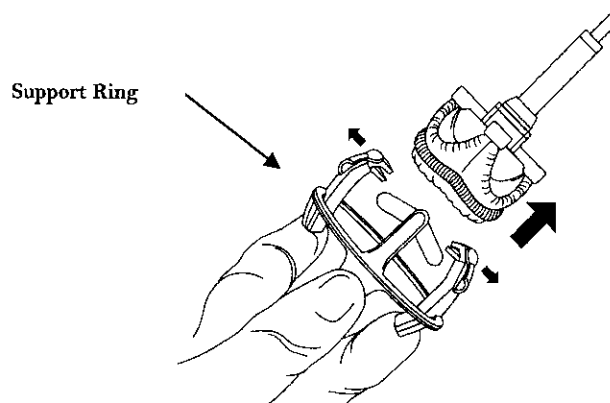

Figure 4: To release the valve support from the valve cuff, depress the three tabs at the base of the valve support, below the support ring.
6. Prior to implantation, remove the valve support by depressing the three tabs below the level of the valve support ring, as indicated in **Figure 4**.